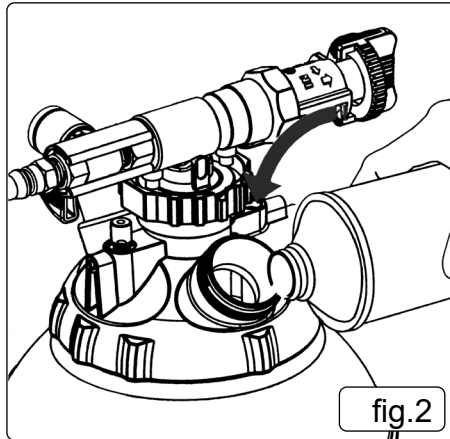

fig.2
4.1.2. Pour in the new fluid. (fig.2)